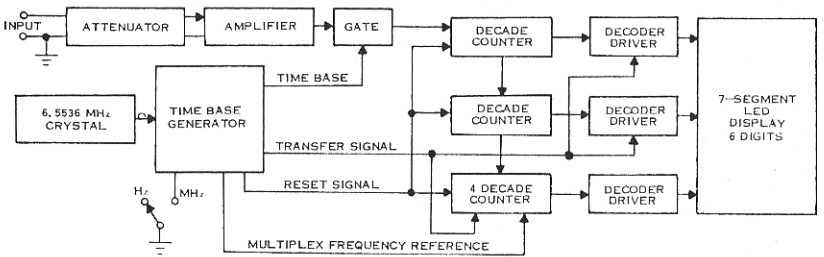
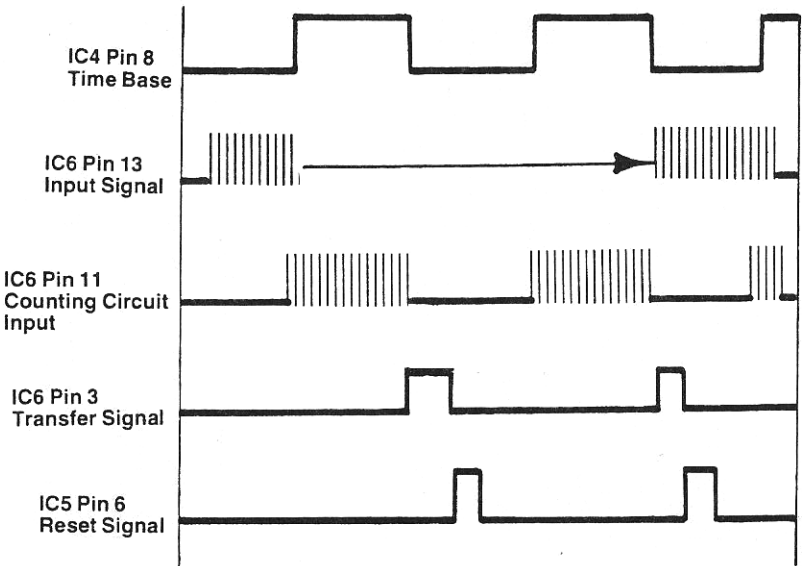

Figure 5-1. Block Diagram
Figure 6-1. Timing Diagram Frequency Measurement
5.1.1 This section describes the theory of operation of the 711. All modes of operation are described first, then description of the circuits follows. (Figure 5-1 shows the overall block diagram of the Instrument).
5.2.1 This circuit arrangement (as shown in Figure 5-1) permits control of the Gate by time base generator signals. The Gate is opened for a controlled time; therefore, the accumulated count represents the number of input cycles or pulses during this time. Controlled interval is selectable by the front panel pushbutton switch either in 10 msec or 1 sec. The decimal point is automatically positioned, and the readout is in Hz, or MHz as indicated by the pushbutton switch position (Figure 6-1 Timing Diagram).
5.3.1 The amplifier (Figure 5-1) consists of a junction field-effect (high input impedance) transistor; AC coupled to a wide-band, linear-integrated circuit amplifier. Sufficient gain is maintained for a frequency response of 10 Hz to 80 MHz. Input overload protection is provided by two silicon diodes at the input of the amplifier.